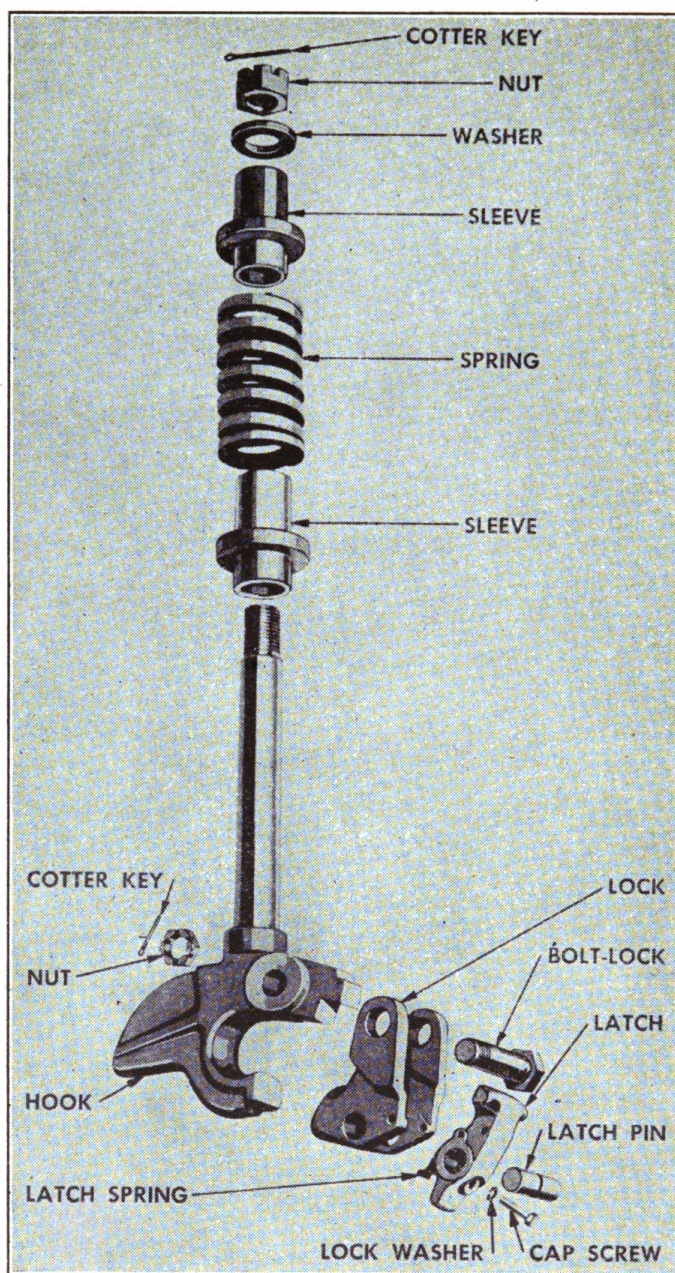

FIGURE 68. PINTLE HOOK—EXPLODED.
2. DISASSEMBLY (Fig. 68).—*a.* Place shaft end of hook (1) firmly in vise.
b. Remove cap screw (10) from latch and drive out latch pin (7).
c. Lift out the latch (3).
d. Remove cotter key (15) and nut (12) from the lock bolt (9) and pull bolt out.